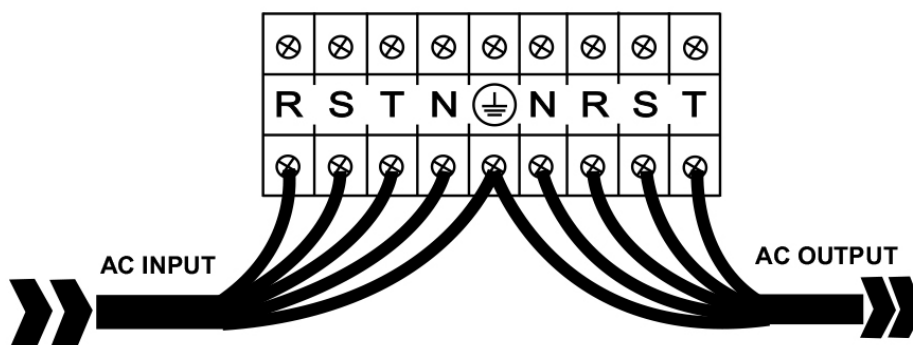

Figure 9 - INPUT/OUTPUT terminals (all Three-Phase models)
- 3.1. Remove the metallic panel that covers the **Input/Output terminals**. The terminals are shown in figure 9. All the cables have to reach the terminals from the rear side using the proper holes in the metallic panel. In power models above 50KVA the terminals are behind the front door.
- 3.2. Connect the **AC INPUT line (R PHASE, S PHASE, T PHASE, NEUTRAL and GROUND)**, paying attention to the right polarity, in accordance with figure 9, as explained below:
- 3.3. Connect the **AC OUTPUT line (R PHASE, S PHASE, T PHASE, NEUTRAL and GROUND)**, paying attention to the right polarity, in accordance with figure 9, as explained below: